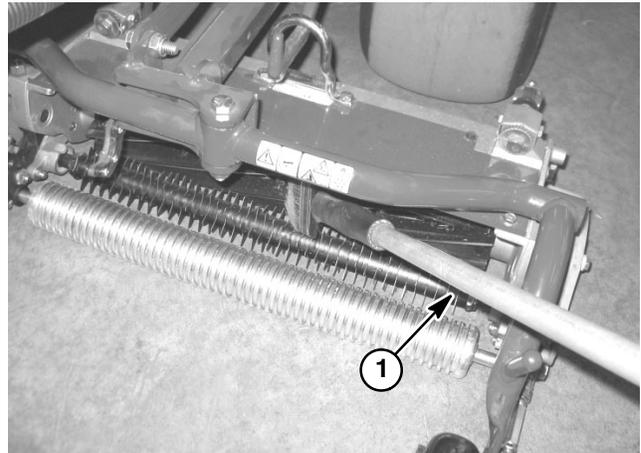

Figure 14
7. Apply lapping compound to cutting unit blades with a long handle brush (see Special Tools in this chapter) (Fig. 14). Never use a short handled brush to apply lapping compound.